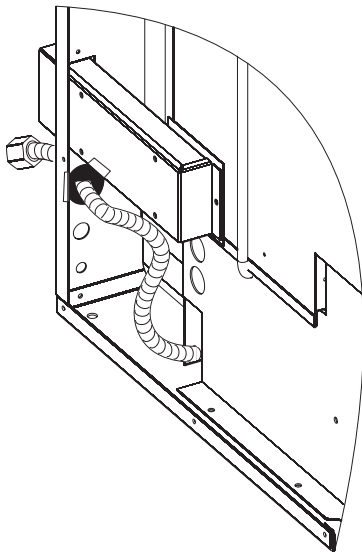

Figure 40 - Fireplace Mantis
1. Pull the factory installed flexible gas line through the hole in the back panel. See Figures 40 and 41.